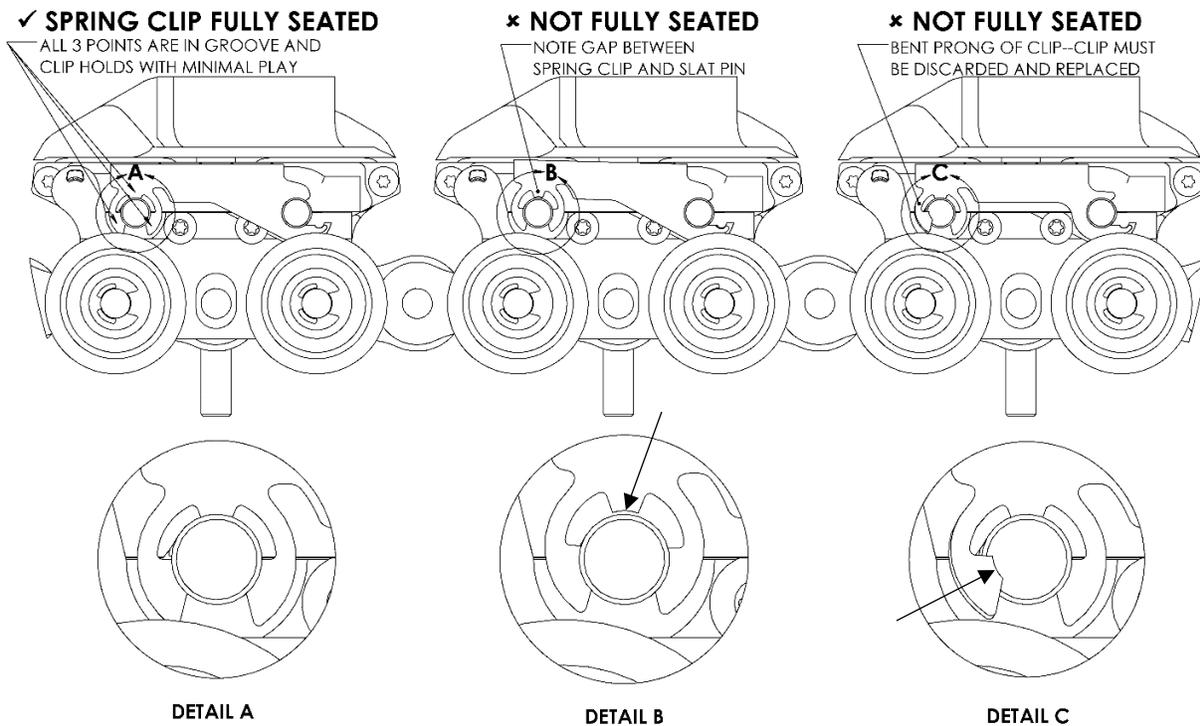

Figure 10-Spring Clip Seating Detail
9. After the slat install is complete, inspect all spring clips to ensure they are latched correctly. See Figure 10.